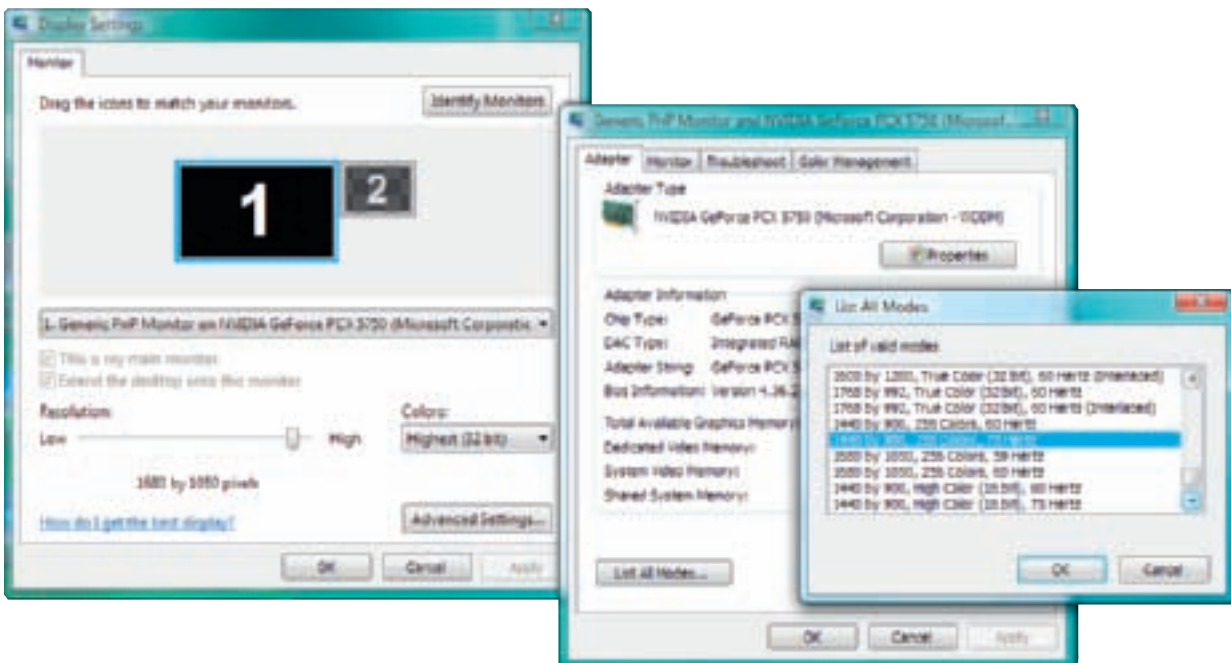

Figure 9-24 Add a new resolution to available resolutions
- ▲ In the Display Settings window, click **Advanced Settings** (see Figure 9-24). The adapter and monitor properties box appears. Click **List All Modes**. In the List All Modes box, shown on the right of Figure 9-24, select the resolution you need and click **OK**. Click **Apply**.